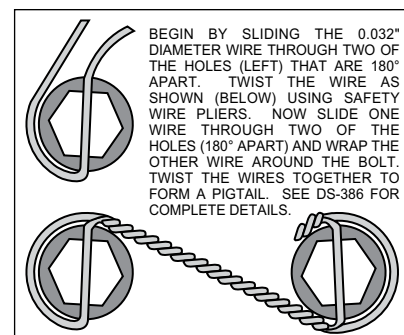

Figure 3. Safety Wire Diagram
- The caliper mount bracket assembly (1) should be installed first with clean, dry threads on the mounting bolts. Install the bracket by sliding bolt (4) through washer (2) from the back side through the lower caliper mounting ear on the spindle. Slide bolt (3) through washer (2) from a 90° degree angle on the upper portion of the steering arm. The bracket must tighten squarely against the outboard side of the caliper mount bosses on the spindle body. Inspect for interference from casting irregularities, machining ridges, burrs, etc. Later, after the caliper, pad, and rotor alignment has been checked, and any necessary shims have been put in place, the threads of the mounting bolts should be coated with red *Loctite*® 271 and torqued to 65 ft-lbs.
- Install wheel studs (5) into the hub (6). Torque to 77 ft-lb. **NOTE:** *There are two (2) five lug patterns in the hub (5 x 4.50 and 5 x 4.75).* Make sure of the correct hole pattern for the correct wheel application before installing studs into hub.
- Pack the large inner bearing cone (7) with high temperature disc brake bearing grease (available from your local auto parts store) and install into the backside of the hub (6).
- Install the grease seal (8) by pressing into the backside of the hub (6).
- Pack the small outer bearing cone (14) with high temperature disc brake bearing grease and install into front of hub (6). Slide the hub assembly (5, 6, 7, 8 and 14) onto the spindle. Secure using spindle washer (15), stock adjusting nut and nut locking device. Adjust bearing using a 12" wrench to tighten the adjusting nut while turning the rotor. When the rotor binds slightly, all the bearing parts are seated properly. Back of the nut 1/6 to 1/4 of a turn or enough to allow 0.001 to 0.007 end play. Lock the nut with a new cotter pin. **WARNING:** *Failure to back off the adjusting nut may cause the bearing to run hot and be damaged, which could cause the wheel to lock or come off during operation, creating a risk of serious bodily harm.*
- Install the o-ring (16) on the dust cap (17), and screw dust cap assembly onto the hub (6). Friction created by the o-ring (16) on the dust cap (17) keeps it from unscrewing.
- With the larger I.D. side of the rotor (9) facing away from the hat (10), bolt rotor (9) to hat(10) through the backside of the rotor using washers (11) and bolts (12). Apply red *Loctite*® 271 to the bolt threads and torque to 155 **in-lb** using a criss-cross pattern. For an added measure of security, the bolts may be safety wired using standard 0.032 inch diameter stainless steel safety wire as shown in Figure 3. Please refer to Wilwood's data sheet DS-386 (available at [www.wilwood.com/Pdf/DataSheets/ds386.pdf](http://www.wilwood.com/Pdf/DataSheets/ds386.pdf)) for complete safety wire installation instructions.
- Slide the rotor/hat assembly over the studs (5) in the hub (6) taking care to align the small countersunk holes in the hat (10) with the small threaded holes in the hub (6). Install three flat head socket head screws (13) through the small holes in the hat (10) and torque to 85 **in-lb**.